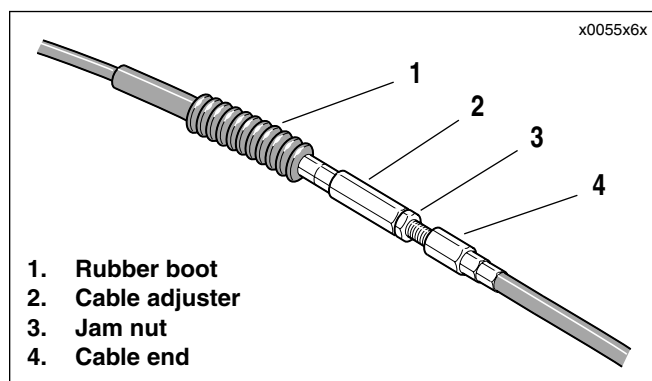
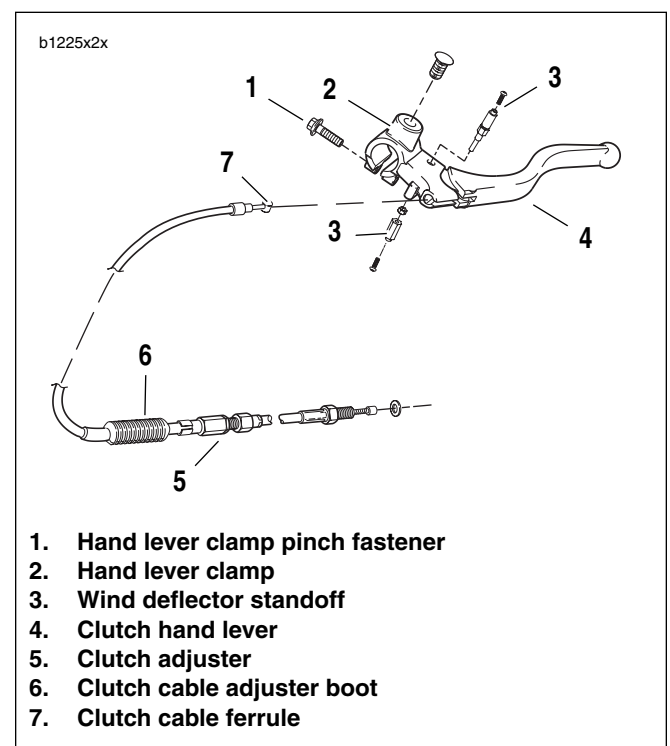

Figure 2-99. Clutch Cable Adjuster Mechanism
Figure 2-101. Clutch Hand Control Assembly
7. Remove front tie bar, P-clamp (2) and clutch cable from engine.
8. See Figure 2-99. Slide clutch cable adjuster boot (1) up to access clutch adjuster (2).
9. Loosen clutch adjuster (2) to release tension from hand lever and clutch release mechanism.
10. See Figure 2-101. Remove clutch cable ferrule (7) from hand lever (4).